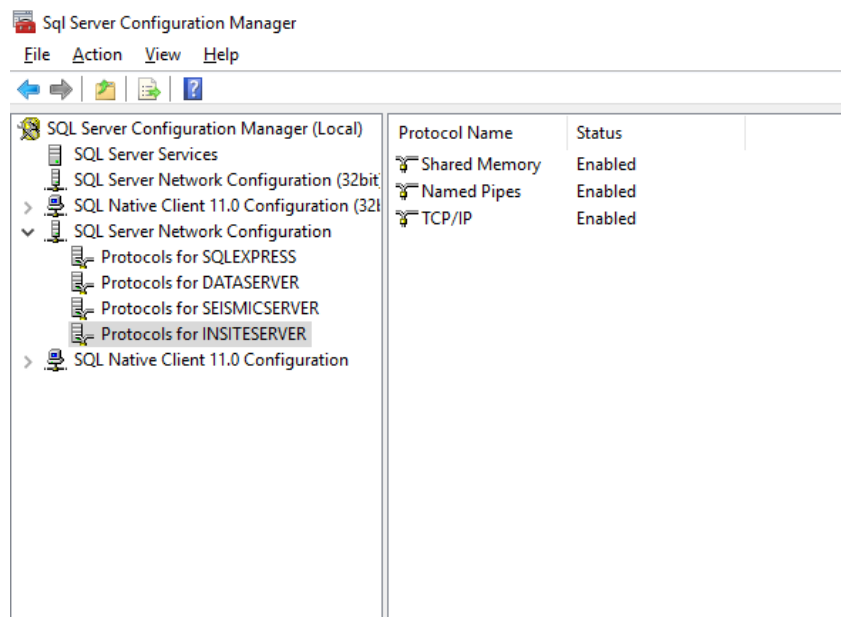

Figure 12-4: Ensure TCP/IP is enabled in SQL Server configuration manager.
1. The relevant SQL server must have the TCP/IP protocol enabled (Figure 12-4).